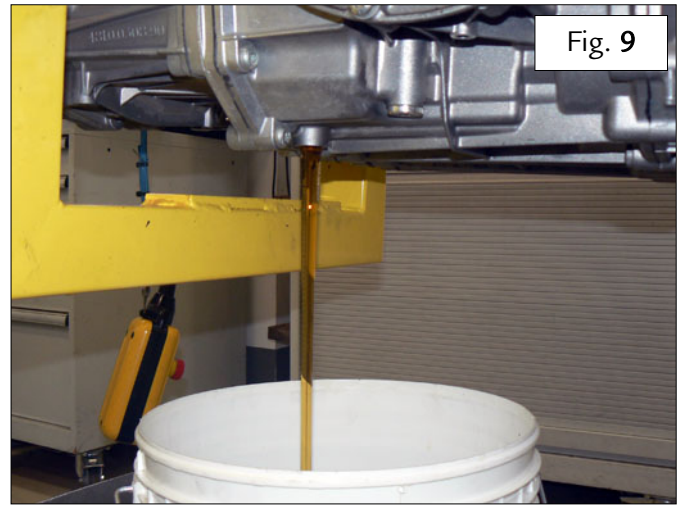

Fig. 9
- Wait for the ATF clutch fluid to drain completely into the container – Fig. 9.
- Remove the left hand flange (7) – Fig. 9.